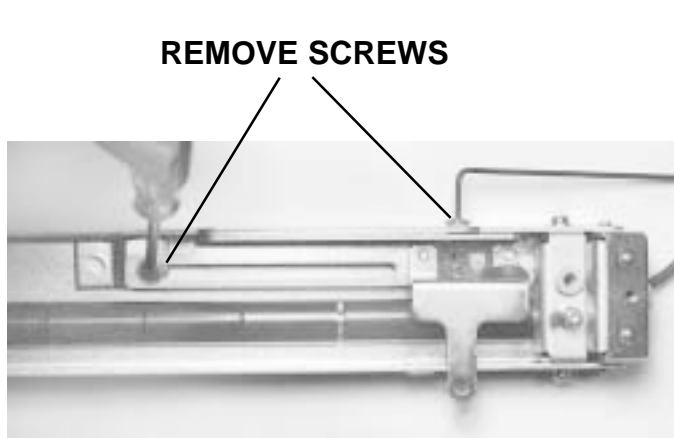

Fig. 6-70
6.	Remove Allen head screw and Phillips head screw to detach bracket and sensor. Dislodge the bracket and sensor from the media hold-down shell noting correct routing of cable. Fig. 6-70, 6-71 & 6-73